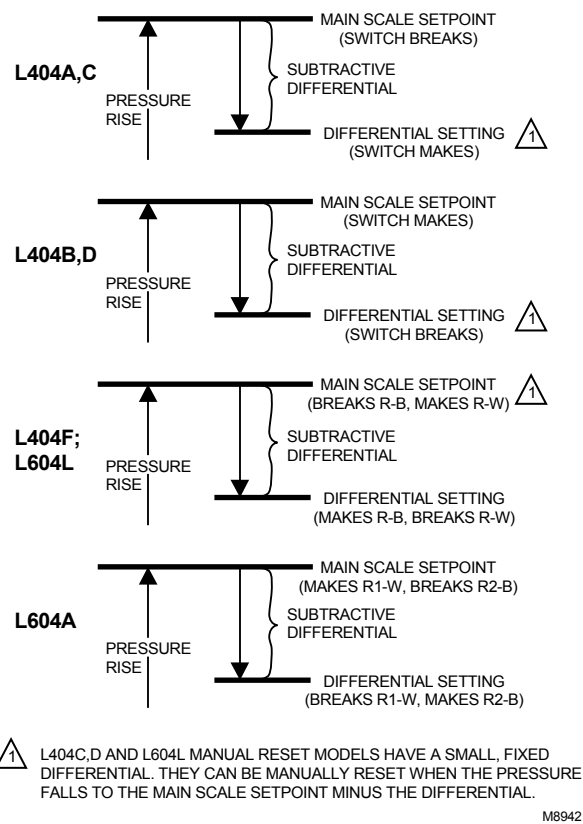
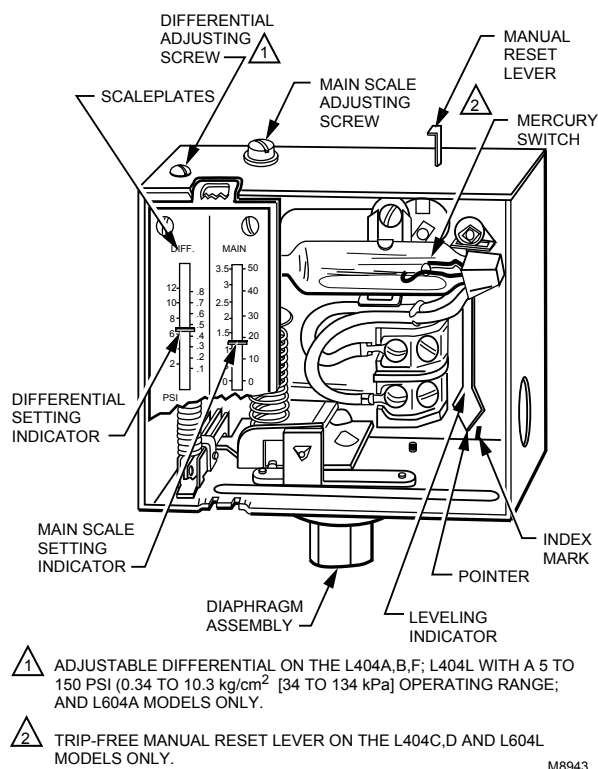

Fig. 10. L404 and L604 operating points.
Fig. 11. Setting a Pressuretrol® Controller.
A controller with a mercury switch must be accurately leveled for proper operation. It is level when the leveling indicator (see Fig. 11) hangs freely with its pointer directly over the index mark inside the back of the case. Level the controller by carefully bending the steam trap (siphon loop).
The L404B is recommended for this application. It makes a circuit when the pressure rises to the setpoint and breaks when the pressure falls to the setpoint minus the differential (Fig. 10).
In all models, the differential is subtractive from the main scale set point. The upper operating point is determined by the main scale set point, while the lower operating point is determined by the main scale setting less the differential setting. The L404F and L604A (with jumper installed), L have spdt switching action. Operating points are shown in Fig. 10.
Adjust the main scale set point for the desired operating pressure by turning the main scale adjusting screw (Fig. 11) on the top of the case until the main scale setting indicator is at the desired value. On an L404A,B,F with a 5 to 150 psi (.3 to 10.3 kg/cm² [34 to 1034 kPa]) operating range, or an L604A, adjust the differential setting by turning the differential adjusting screw (Fig. 11) until the differential setting indicator is at the desired value. L404C,D and L604L are manual reset models: see the next paragraph. The scaleplates are marked psi and kg/cm².
The L404C breaks, the L404D makes, and the L604L makes R-W and breaks R-B when the pressure rises to the main scale setpoint. They will not automatically return to their former positions. To reset one of these controllers, wait until the pressure falls to the set point minus the differential (Fig. 10). Then depress the manual reset lever (Fig. 11) and release it. The controller will not be reset until you release the manual reset lever. This prevents the controller from becoming an automatic-reset device if the reset lever is stuck, held in, or tied down.
2. Turn the main scale adjusting screw (Fig. 11) until the main scale setting indicator on the controller corresponds to the boiler pressure gauge reading.
7. If the controller is operating properly, turn the main scale adjusting screw (Fig. 11) until the main scale setting indicator is at the desired set point.
The controller was carefully calibrated during manufacturing and should not require recalibration. Most calibration errors are caused by improper leveling. The controller should be level when the pointer on the leveling indicator is directly over the index mark (Fig. 11). In some cases, the leveling indicator may not be accurate enough. The pointer may be over the index mark, but the controller still may not be operating within the tolerance of its scale setting. In this case, carefully bend the steam trap (siphon loop) until the controller switches properly.